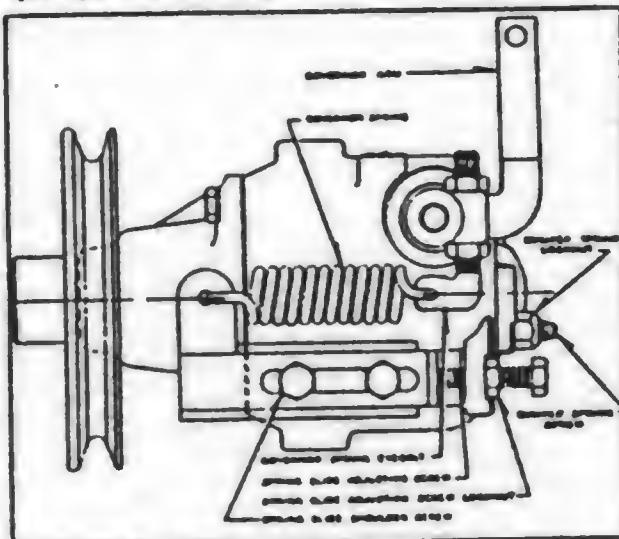

FIG. 33 ENGINE GOVERNOR ADJUSTMENTS
(1) With spring tension on the governor spring, Fig. 33, adjust the length of the throttle control rod so that the carburetor throttle lever clears the wide open stop by 1 64".
(2) Loosen the bumper spring screw locknut and turn that screw out far enough to prevent its functioning. Loosen the spring slide shoulder screws so the slide may move endwise. Start the engine. Loosen the spring slide adjusting screw locknut and turn that screw as necessary to obtain correct speed.
(3) If the governor surges under full or part load, adjust the governor spring eyebolt downward until surging stops. For close regulation, keep the governor spring eyebolt as high as possible without causing surging. Each time its adjustment is changed, readjust the spring slide adjusting screw for correct speed.
(4) If the governor surges at no load, turn the bumper spring screw in until surging stops, but not far enough to increase the engine speed.
(5) Tighten all locknuts and shoulder screws.